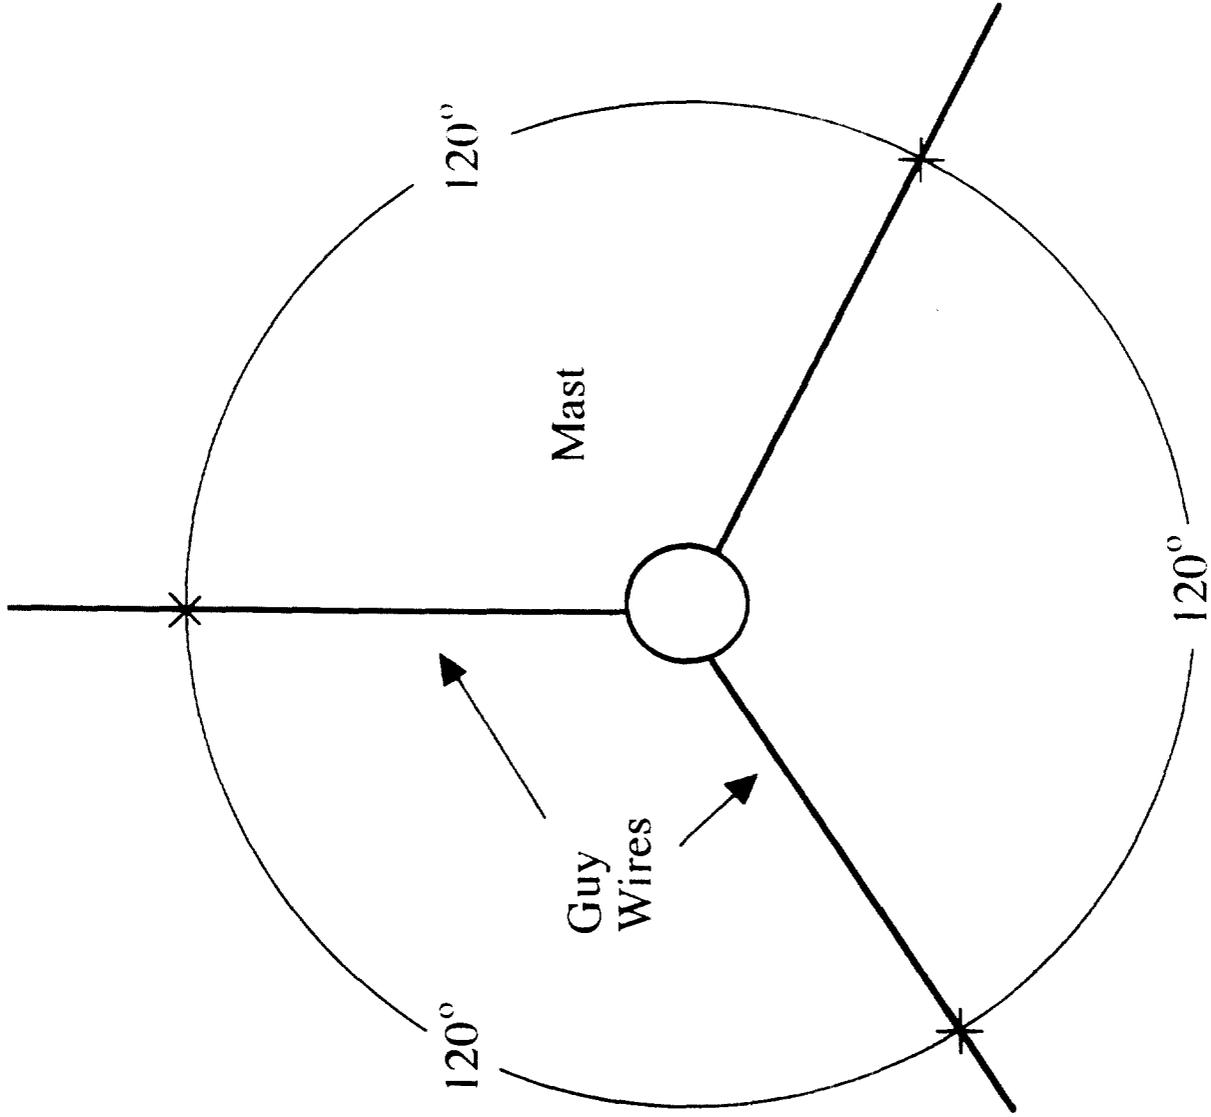

Fig. 10
- Guy wires are to be placed in a triangular configuration in 120 degree intervals from the mast. (See Figure 10)